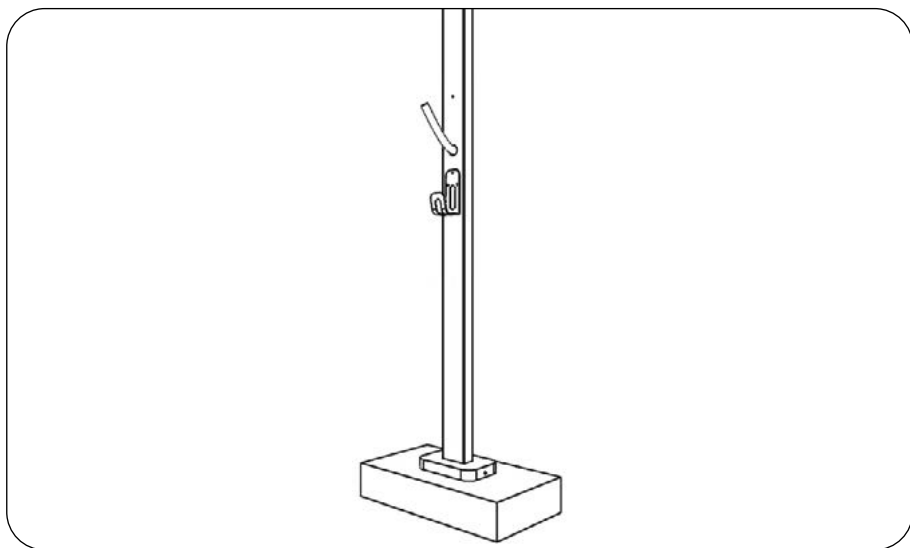

Figure 21
3. Pass the cable inside the column (Figure 21) until it comes out of the special hole.